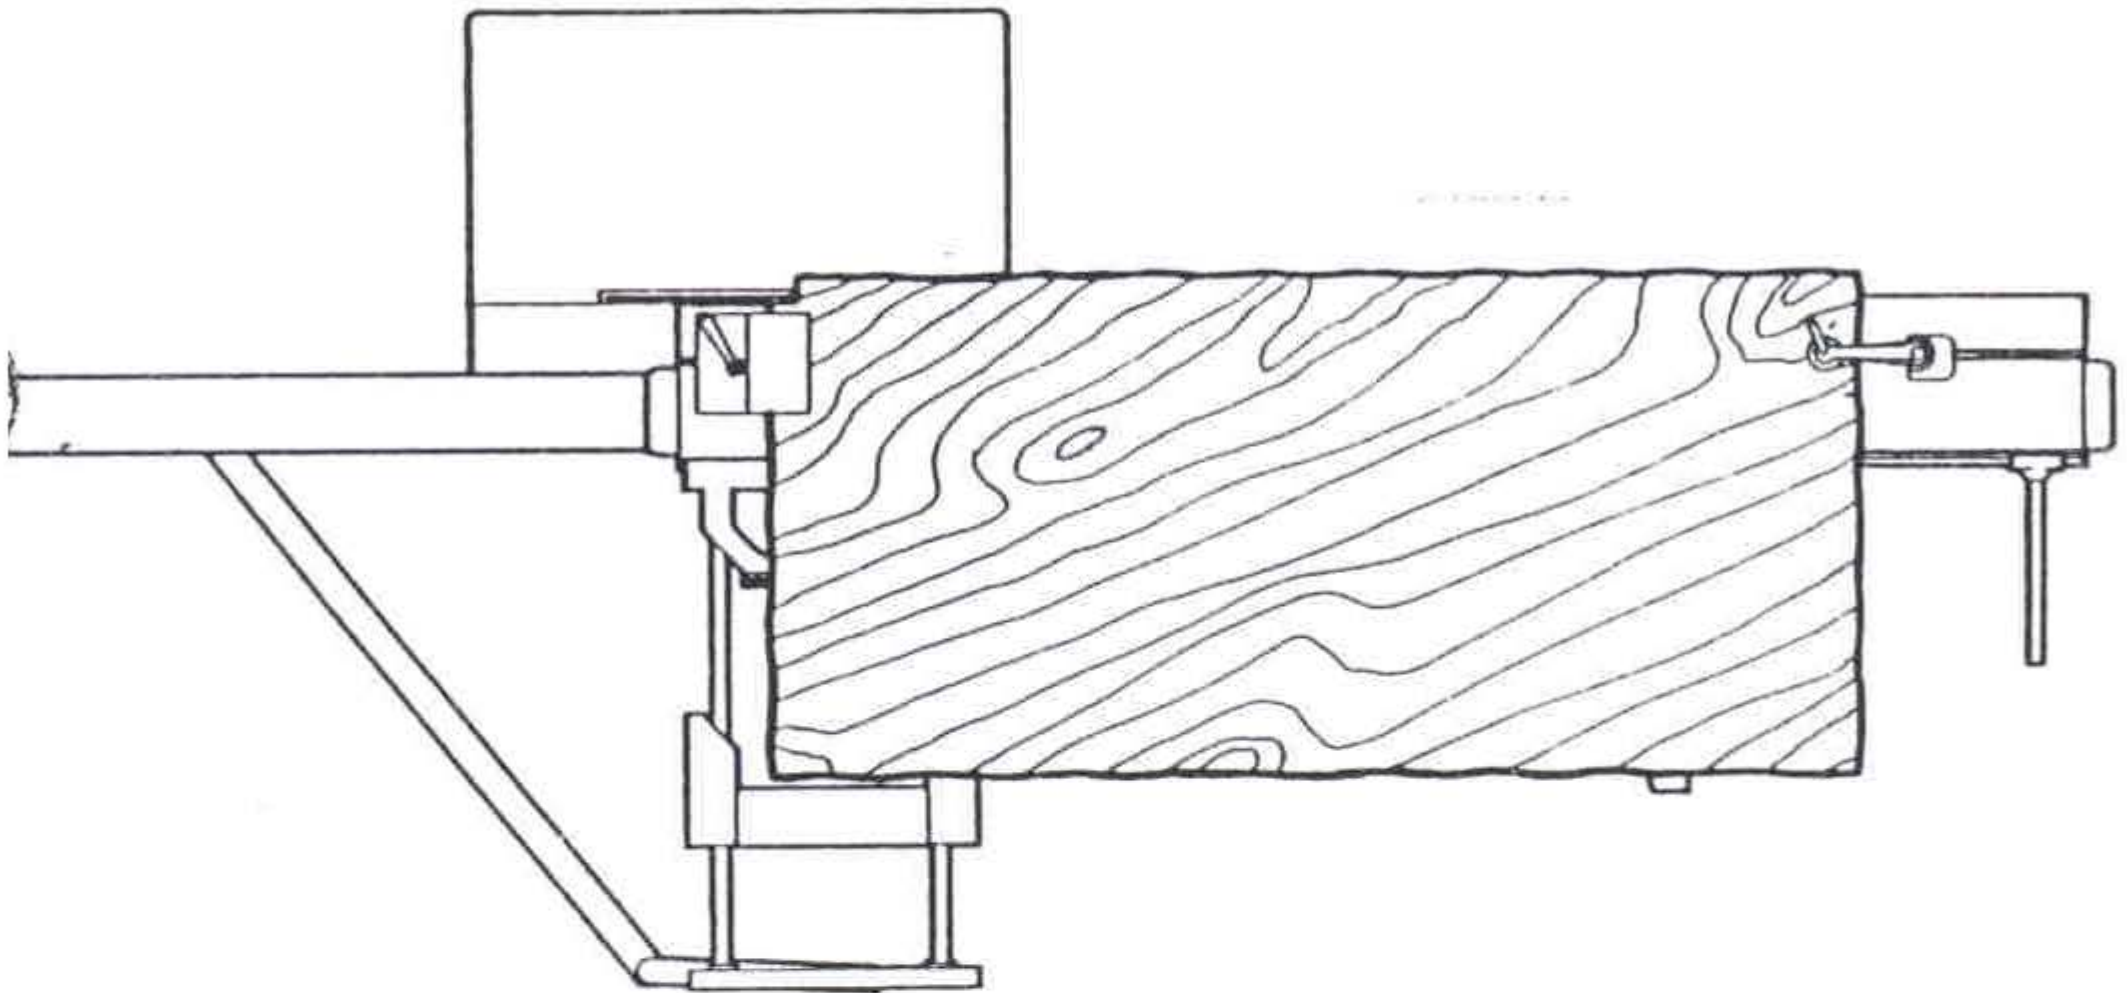

Fig. 23
- A first longitudinal cut of the workpiece by pressing it against the tile-shaped stop and keeping the piece fixed by hands or with the clamp (fig. 23).